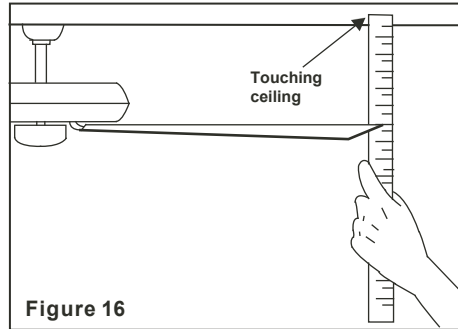

Figure 16
2. Most fan wobbling problems are caused when blade levels are unequal. Check this level by selecting a point on the ceiling above the tip of one of the blades. Measure this distance as shown in Figure 16. Rotate the fan until the next blade is positioned for measurement. Repeat for each blade. The distance deviation should be equal within $1/8$ ".